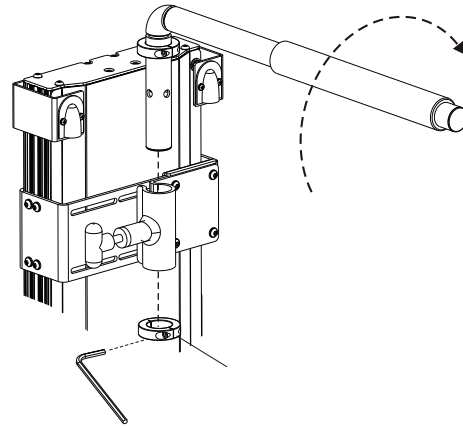

Figure 5-6
3. If a lower hold-down arm position is required, remove the lower shaft collar, pull the T-handle to release the hold-down arm, and lift out. *See Figure 5-6.*